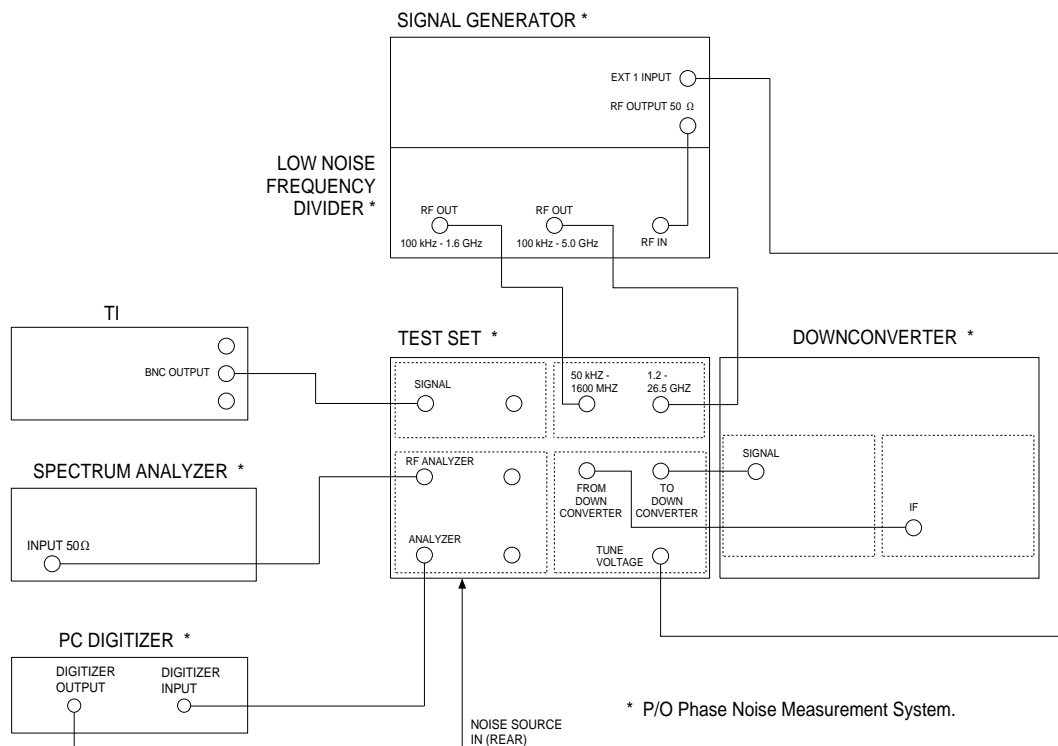

Figure 1.
4.2.2.3.12 Connect equipment as shown in Figure 1 and on the TI, press Rx TEST, RF Gen and set the controls as follows: